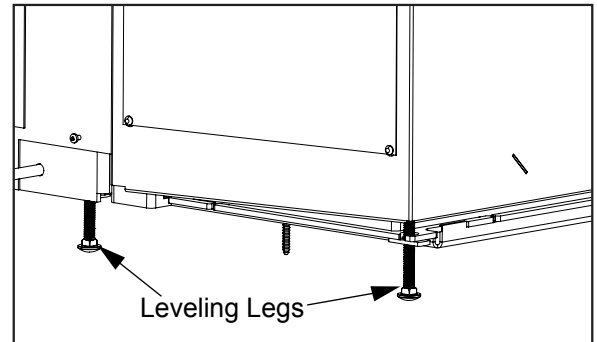

Figure 15: Leveling legs.
3. There are four (4) leveling legs (shown in Figure 15), two (2) on each side, one at the back and one at the front of the unit. Adjust the legs using a $\frac{3}{8}$ " wrench to ensure the unit is stable.